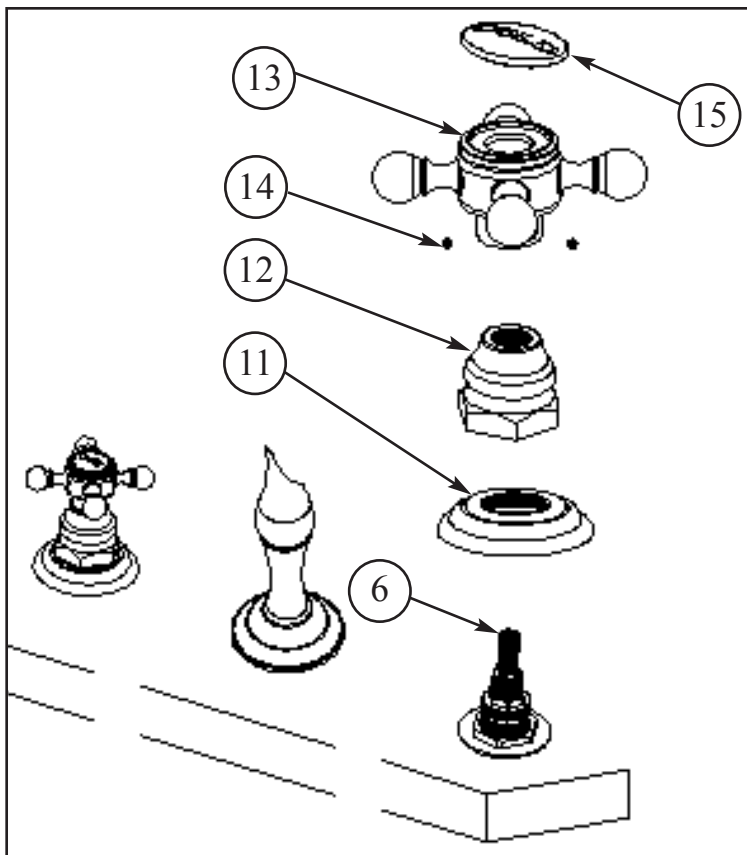

Figure 3
- Turn VALVE STEM (6) to off position. Attach ESCUTCHEON (11) BONNET (12) and HANDLE (13). Any adjustments for rotational alignment must be made to the VALVE BODY (6), not to the cartridge. Allow minimum spacing between HANDLE (13) and BONNET (9) to prevent damage to the surface finish. Secure HANDLE (13) into place with SET SCREW (14). Remove adhesive backing from desired BUTTON (15) and place onto HANDLE (13). See Figure 3.
- Secure BASE (17) in place by attaching NUT (18) to underside of deck. Place SPRAY (16) and HOSE (20) through BASE (17). Apply plumbers tape to ADAPTER (19) and attach to bottom outlet of DIVERTER TEE (2). Tighten HOSE (20) onto ADAPTER (19).
- Remove AERATOR (21) from SPOUT (1), turn on water supply, and flush both valves until water is clear. Check for leaks and make any final adjustments required. Re-attach AERATOR (21) to the SPOUT (1).